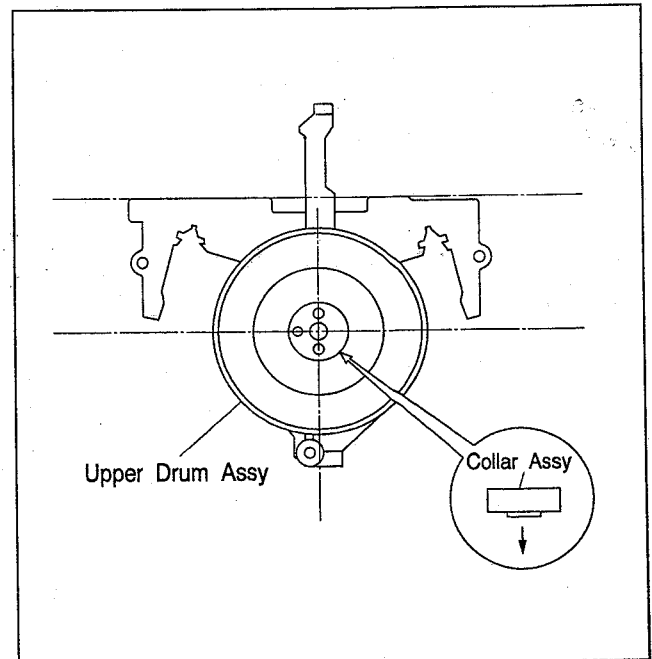

Fig.2-5-27
- (3) Note the top and bottom of the collar assy and determine the position as indicated in Fig.2-5-27.